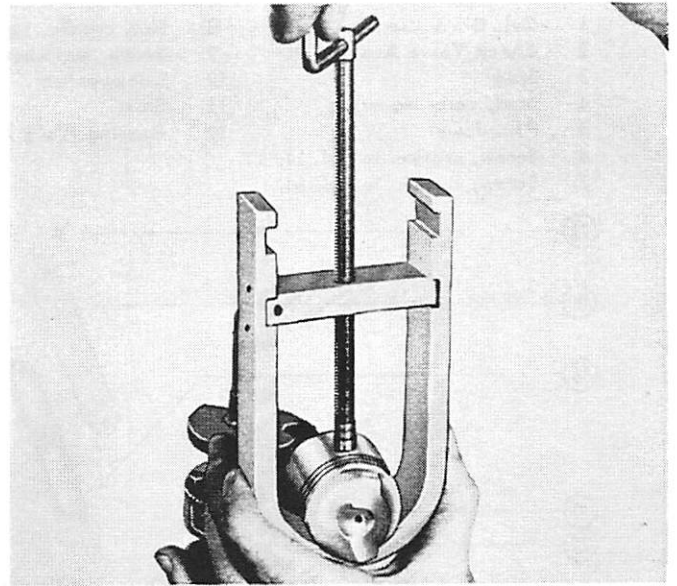

Figure 9. Removing (and Installing) Piston Pin
5. Place Piston Pin Bearing Tool (91-30425A1) around piston, set bar of tool in center groove and turn screw in until piston pin emerges from piston. (Figure 9) Be careful of roller bearings, 17 in each piston pin race.